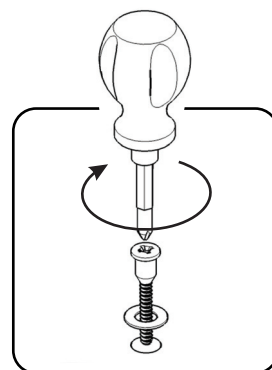

Figure 3
Attach Base (I) to unit with Flat Washers, Long Screws and Cam Locks. (See Figure 3)